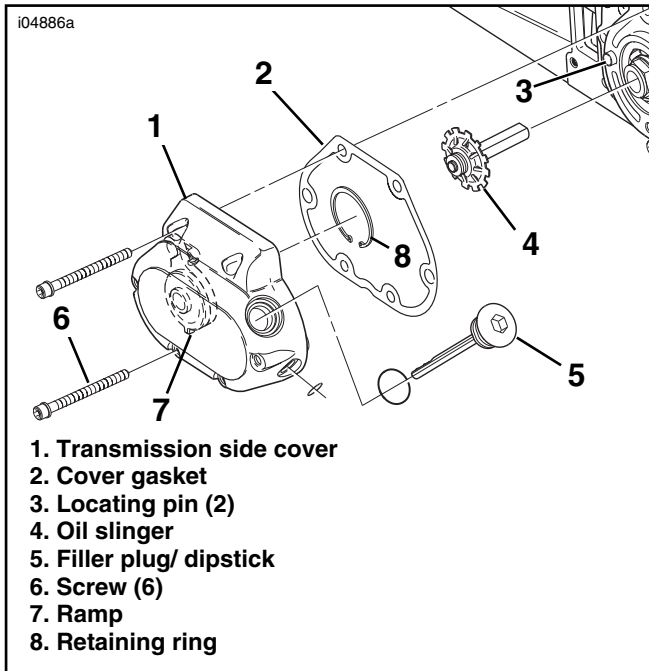

Figure 1. Original Transmission Side Cover
6. See Figure 1. Remove and retain the filler plug/ dipstick (5) for later installation. Remove the six socket-head screws with washers (6) to free the transmission side cover (1) from the transmission case. Retain two screws and discard the remaining four.
7. Actuate the clutch lever to break the cover seal. Remove the cover. Remove and discard the cover gasket (2).
8. Remove the clutch ramp retaining ring (8). Rotate the inner ramp (7) to a position that will allow the clutch coupling to be disconnected. Disconnect the clutch coupling and disconnect the cable end from the coupling.
10. Remove the oil slinger (4) as an assembly from the transmission mainshaft. Discard the oil slinger.